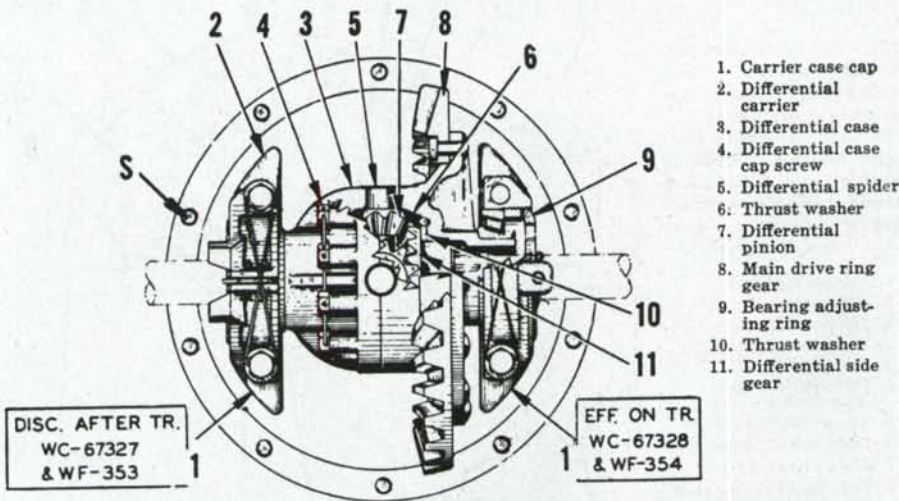

Fig. AC112—Models WC, and WF bevel ring gear and differential unit assembly—rear view. (S) Nuts & studs retaining differential carrier to rear axle housing.
drive units. Remove the axle housing from the differential carrier as follows: Support rear of tractor frame and detach rear axle housing from the end of each frame side rail by removing bolts (B). Remove steering support brace on WC, or steering gear and platform on WF, and roll rear axle and torque tube assembly backwards as a unit until it is clear of the transmission. Support the torque tube and remove nuts (S—Fig. AC112) and pull axle housing away from differential carrier. The carrier bearing adjusting ring nuts (9) are now accessible.
To disassemble the differential, remove cap screws (4—Fig. AC112) from case (3). To renew the case or carrier bearings or bevel ring gear, proceed as given for the model RC in paragraph 246B. After differential is reinstalled to carrier, adjust the bearings and backlash by following the procedure given for the RC in paragraph 245A.